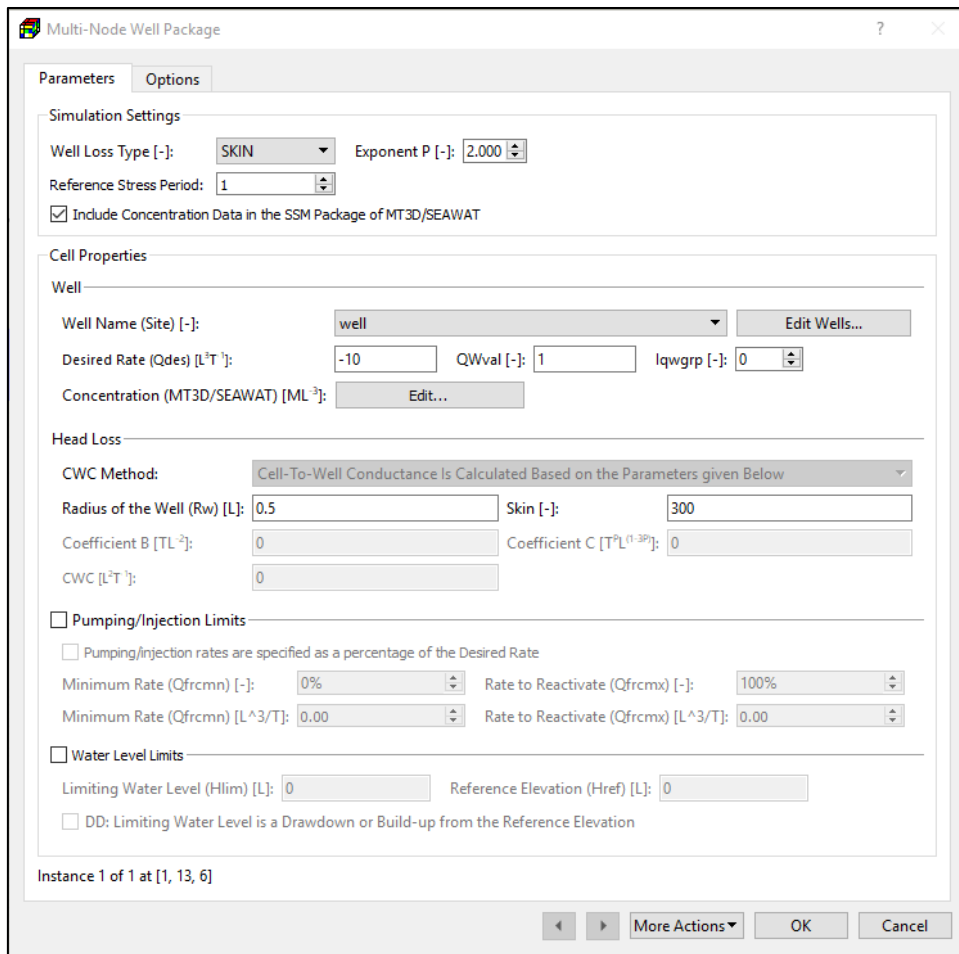

Figure 74. The Multi-Node Well Package dialog box
1. **Cell-by-cell input method:** Figure 74 shows the dialog box for specifying cell properties.